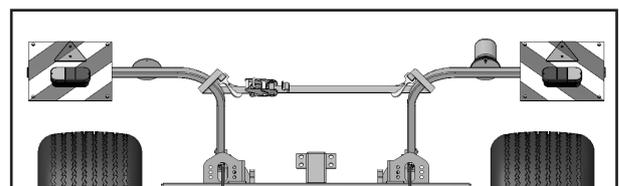

Fig. 2.01: Transport Strap Stowage in Work
2. Remove the transport strap from the rear wing cylinders. Stow the transport strap on the lights as shown in Fig. 2.01.